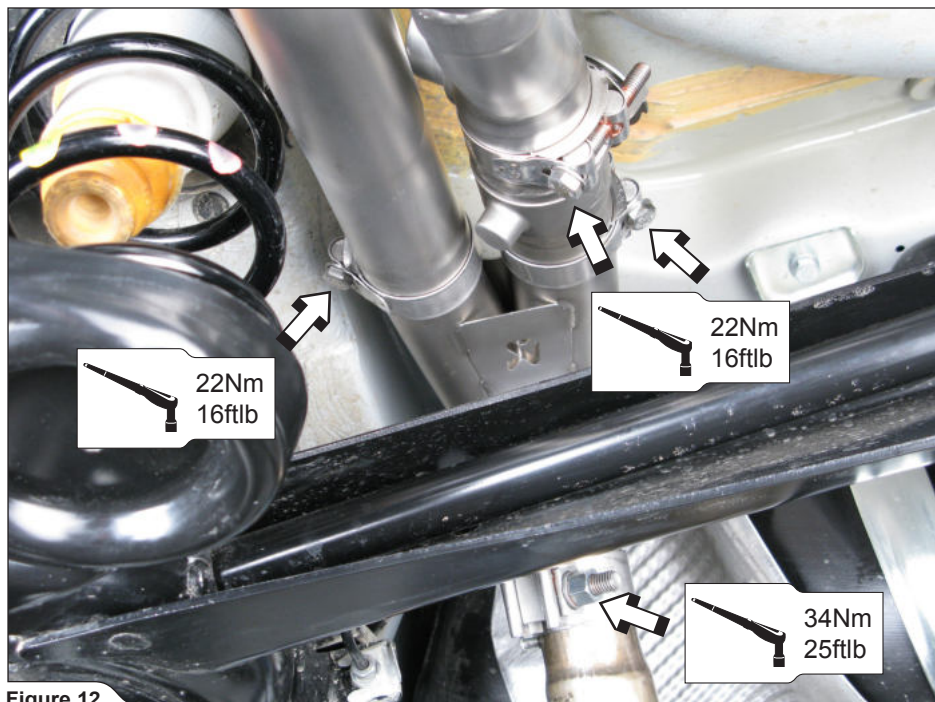

Figure 12
8. For optional wireless kit only: tighten the clamps to the specified torques (**Figure 12**).